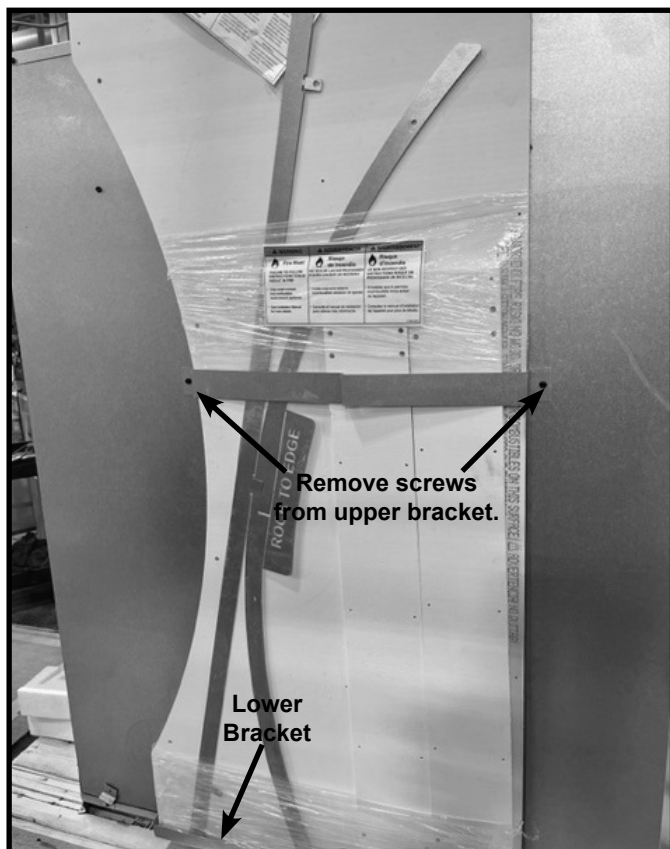

Figure 6.1 Non-Combustible Facing Material Assembly
The non-combustible assembly and finishing trim pieces are located on the back of appliance (see Figure 6.1).
- Remove and save two screws from upper brackets (see Figure 6.1).